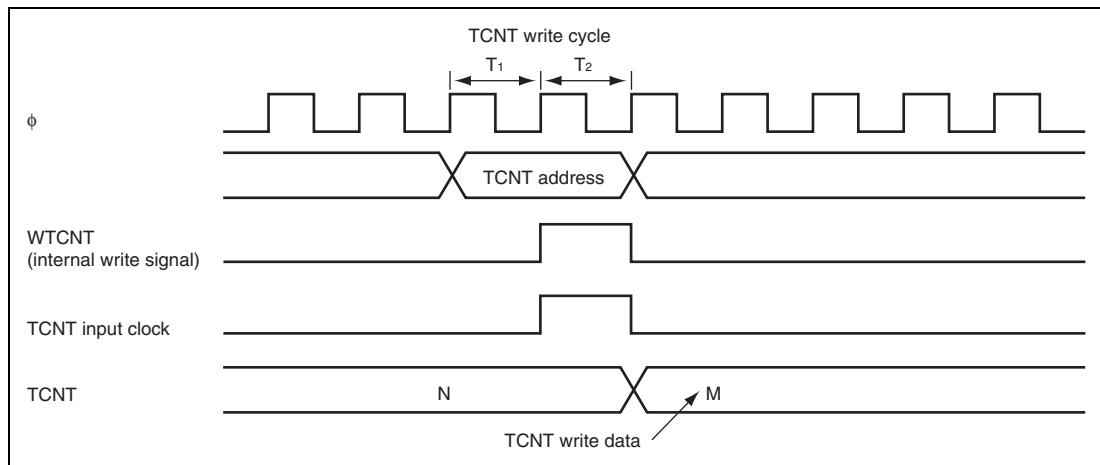

Figure 12.53 Contention between TCNT Write and Increment Operations
2. Contention between TCNT Write and Increment Operations: If incrementation is done in  $T_2$  state of a TCNT write cycle, TCNT writing has priority. Figure 12.53 shows the timing in this case.